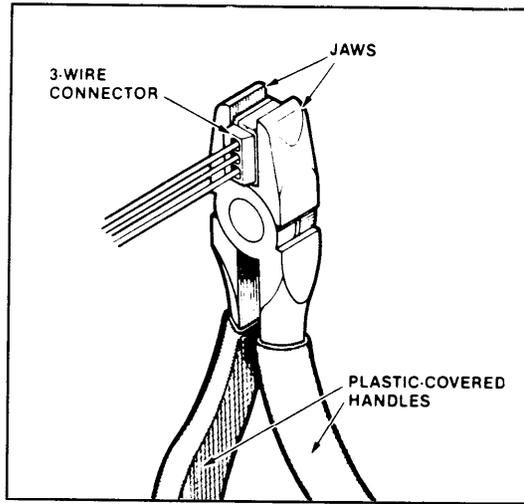
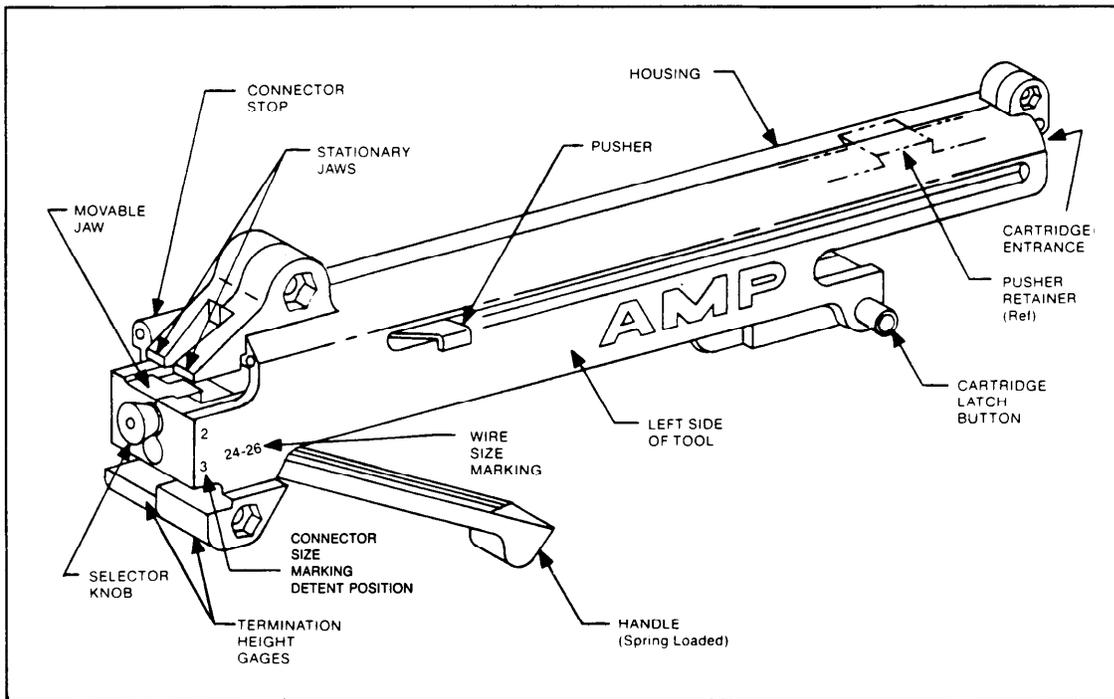

Fig. 3 - Terminating Loose-Piece Connectors
Fig. 4 - Terminating Cartridge Connectors
3.04 Crimp with the approved tool as depicted in Fig. 3 and Fig. 4.
- 3.06 Splice ground wire using the correct size sleeves or connector as shown in Table A. Figure 1 depicts the presser required for splicing. Figure 3 illustrates the completed splice. DO NOT TAPE GROUND WIRE SPLICES.